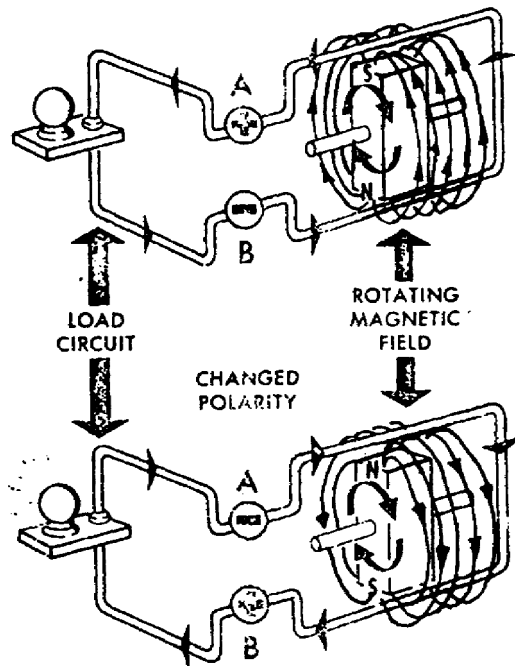

Figure 18. Rotating field.
(4) Voltage is generated in Delcotron generators by moving strong magnetic fields across stationary conductors.
a. In the review of electrical fundamentals, it was observed that a voltage will be induced in a conductor when a magnetic field is moved across the conductor. For example, consider a bar magnet with its magnetic field rotating inside a loop of wire (fig 18). With the magnet rotating as